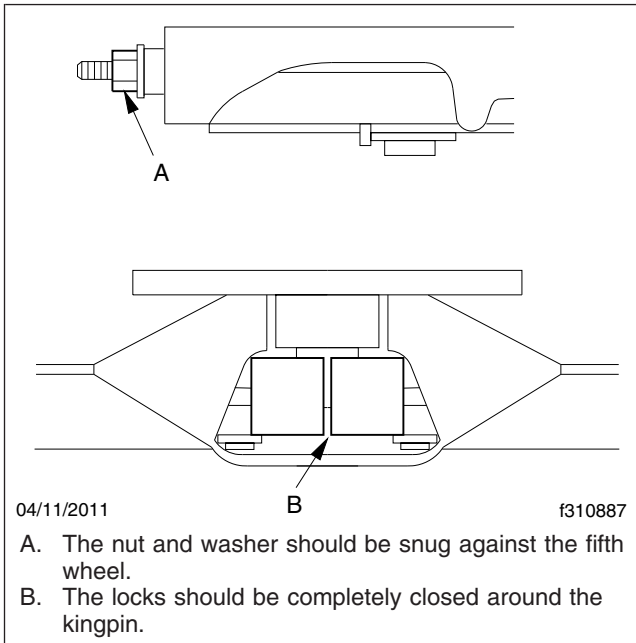

Fig. 4, Holland Fifth Wheel Properly Closed
5. Using a Holland Kingpin Lock Tester (Holland tool number TF-TLN-5001, available through the PDCs as HLD TFTLN5001), check the operation of the locking mechanism by opening and closing the locks. See Fig. 4.